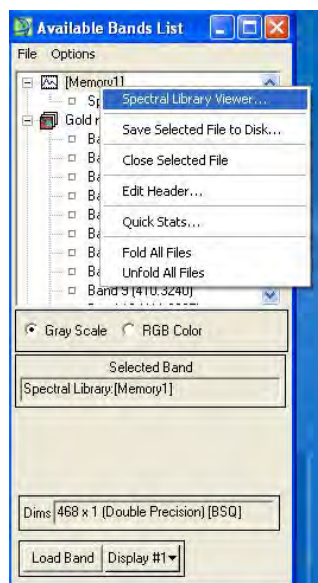

Figure 8. Using the Spectral Library Viewer to view Endmember
- a. Right click on Memory in the Available Bands list (see Figure 8)